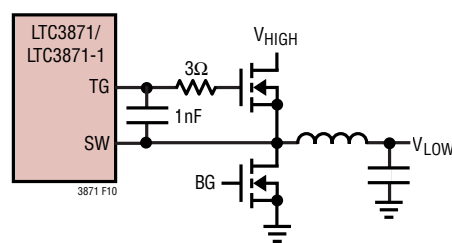

Figure 10. Filter for TG Traces > 25mm
- The TG traces from the controller IC to the gate of the external MOSFET should be kept as short as possible to minimize the parasitic inductance. This inductance can cause voltage spikes that can potentially exceed the ABS Max rating of the drivers and damage them. A 3Ω resistor and 1nF capacitor can be used to filter these spikes as shown in Figure 10. When using the 9V/10V DRVSET settings, or if the TG traces are longer than 25mm, this filter network must be used on both TG1 and TG2. The 1nF capacitor should be placed as close to the TG/SW pins as possible.